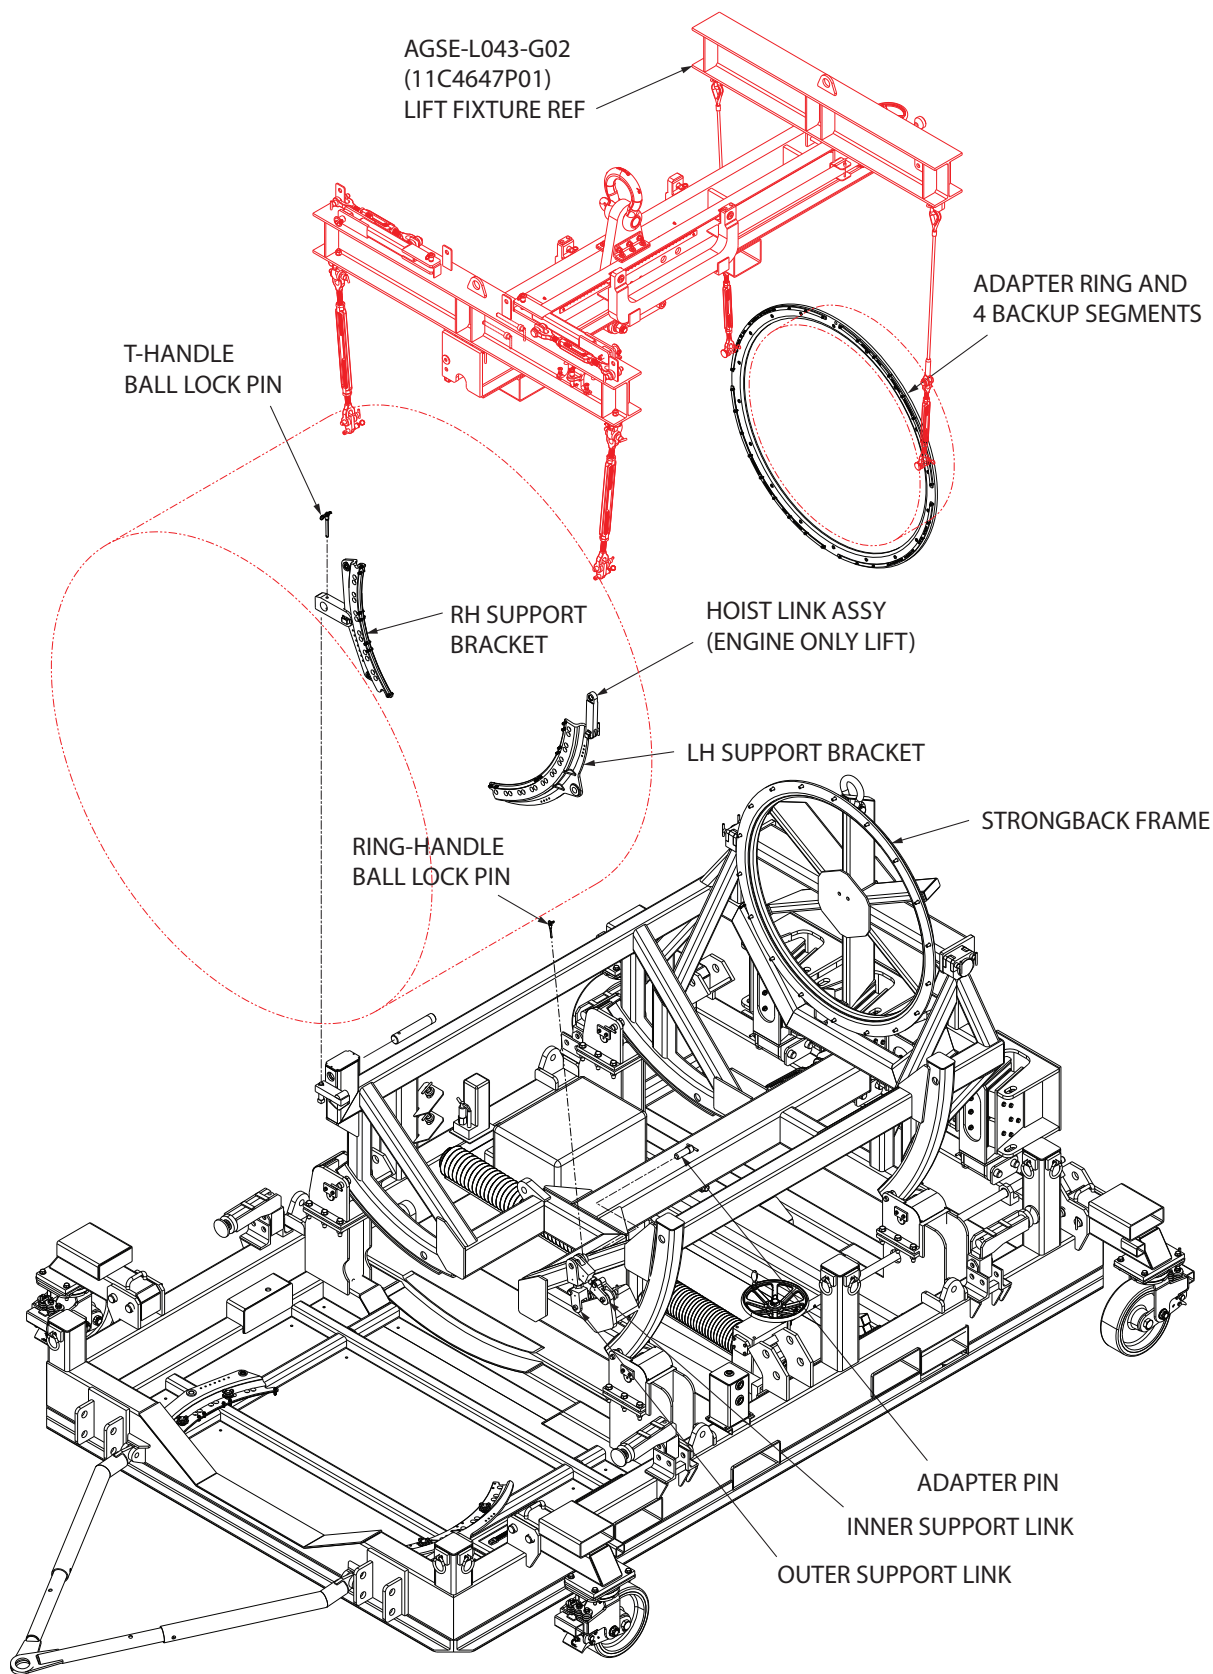

Figure 5.2-7 Engine Installation onto Cradle
- 8) Lower the engine and align the spacer ring bolt holes with those of the strong back. Install the 18 strong back special lug bolts (IPB Figure 7 - Item 4) in a criss-cross pattern to connect the spacer ring to the strong back frame. The stand can be moved side to side by using the steering bars in the casters to swivel the casters to move the stand. The cradle can also be rotated slightly as required to align bolt holes. (Figure 5.2-7).